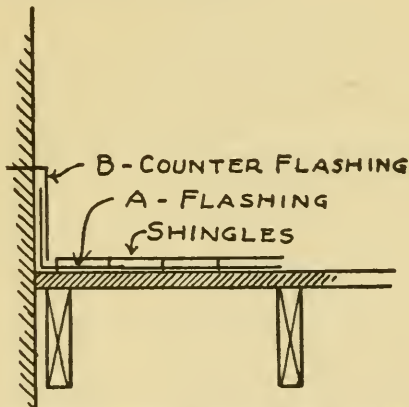

Fig. 49. Section Showing Flashing and Counter-Flashing.
**Flashing and Counter-Flashing.** By flashing and counter-flashing is meant metal protection for the intersection of surfaces, to keep out the weather. Take an example of a chimney going through a roof. Some means must be provided to prevent snow and water from coming in through the space between the vertical side of the chimney and the roof. This is accomplished by using sheet metal—either copper, galvanized iron, or tin—and fastening it under the roof covering, turning it up against the chimney, as shown in Figs. 49 and 50, the piece marked **A**.